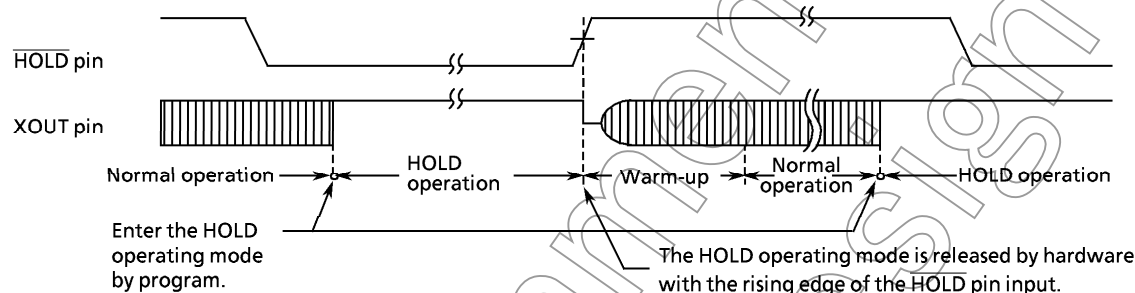

Figure 2-23. Edge-sensitive Release Mode
- ① The high-freq. oscillator starts.
- ② Warm-up is performed to acquire the time for stabilizing oscillation. During the warm-up, the internal operations are all stopped. One of three warm-up times can be selected by program depending on the characteristics of the oscillator used.
- ③ When the warm-up time has passed, an ordinary operation restarts from the instruction next to instruction which starts the HOLD operation.
* The warm-up time is obtained by dividing the basic clock by the interval timer, so that, if the frequency at clearing the HOLD operation is unstable, the warm-up time shown in Figure 2-23 includes an error. Therefore, the warm-up time must be handled as an approximate value.